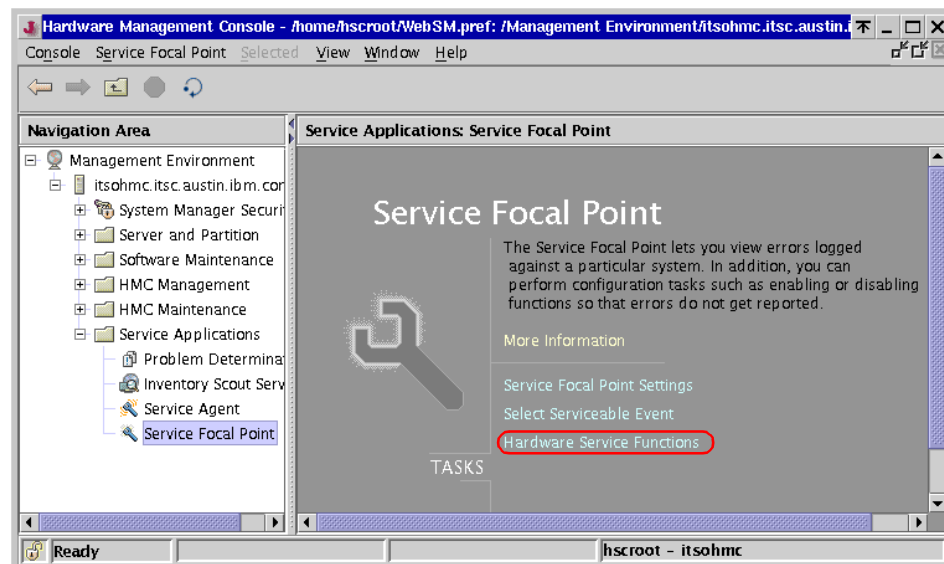

Figure 5-30 Service Focal Point: Hardware Service Functions
2. Select Service Focal Point in the Navigation Area. You will see the Service Focal Point task panel, as shown in Figure 5-30.
3. Select **Hardware Service Functions** (Figure 5-30).